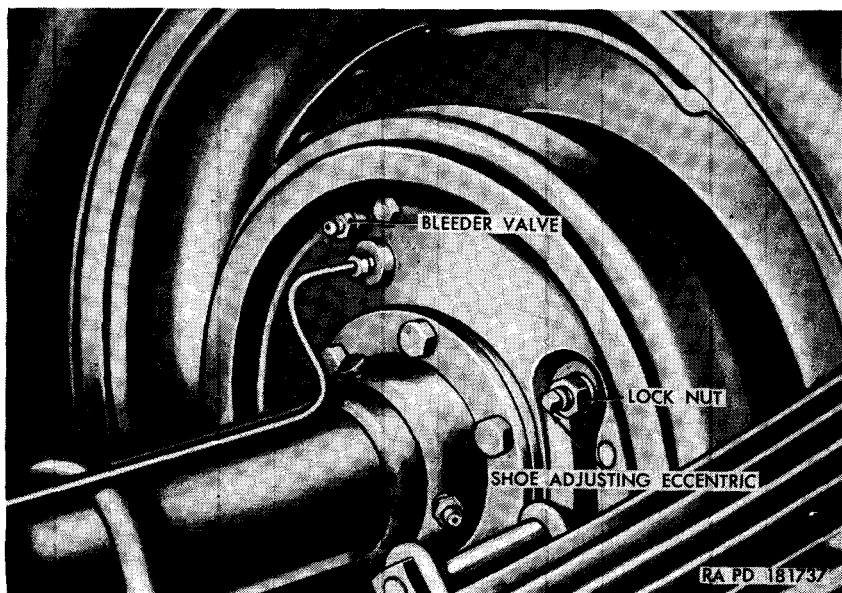

Figure 115. Brake shoe adjusting eccentric and bleeder valve.
- (2) Loosen the nut (fig. 115) on the shoe adjusting eccentric. Place a wrench on the shoe adjusting eccentric so that the wrench extends upward. Rotate the wheel and turn the shoe adjusting eccentric, moving the wrench handle away from the axle until a slight drag of the drum on the brake shoe is felt. Back off the eccentric until drag is no longer felt and the wheel turns freely. Hold the shoe adjusting eccentric in this position with the wrench and tighten the nut. Rotate the wheel again to make sure that the wheel still turns freely. Repeat the operation on the other three wheels. Remove the vehicle from the safety stands.